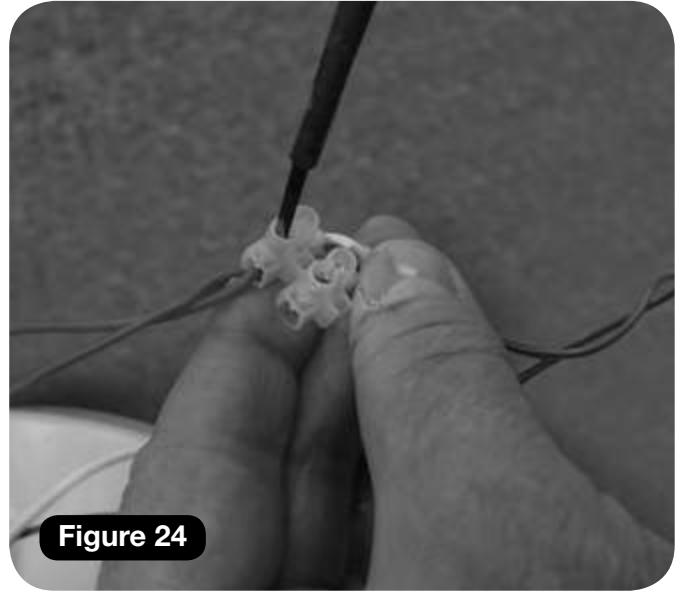

Figure 24
- j** Wrap the two red charge contact wires together and feed this into the two-way connector block **(Figure 24)**.